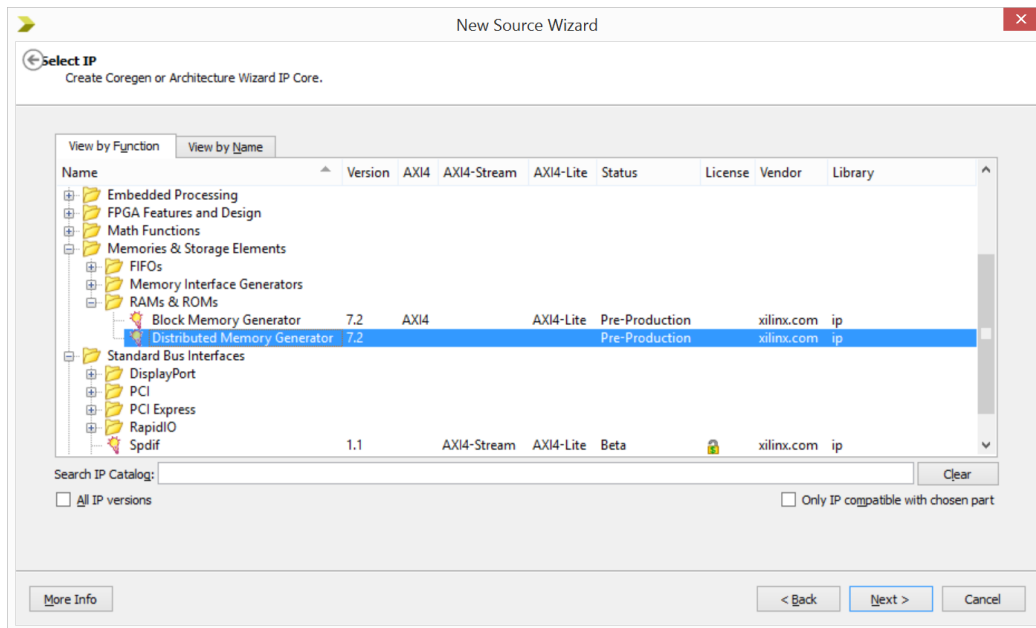

Figure 6-24
**Solution:** Step-1) Open a new project and create a main VHDL design, name it as “ROM\_Usage”. Add a new source as represented in Figure 6-2 and name it as “ROM\_core”. After typing core name click **Next**. Choose **Distributed Memory Generator** IP core as seen in Figure 6-24. Click **Next**.